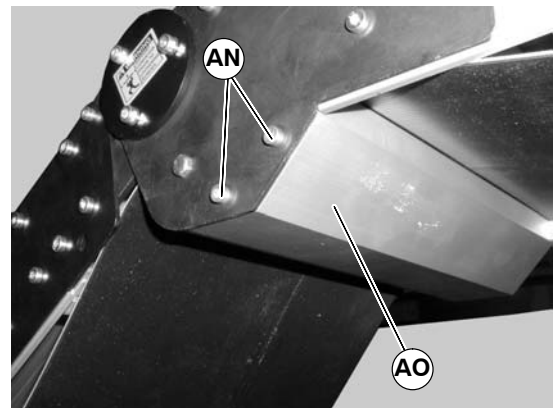

Figure 76
1. Remove screws (AN of Figure 76) on both sides of knuckle and remove guard (AO).